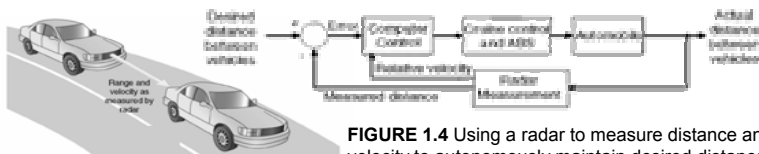

FIGURE 1.4 Using a radar to measure distance and velocity to autonomously maintain desired distance between vehicles.
- Figure 1.4 shows an illustration of the vehicle-sensing capability with a millimeter-waver radar.